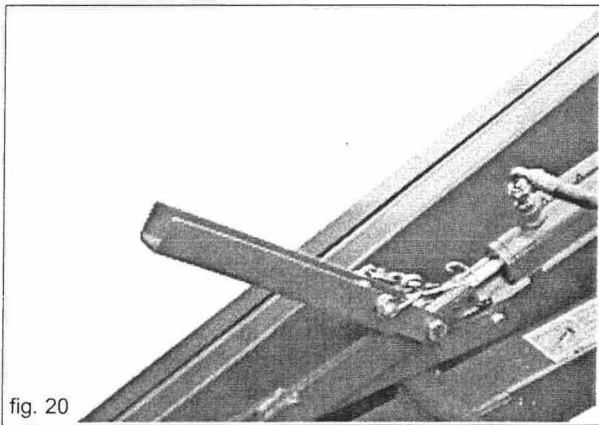
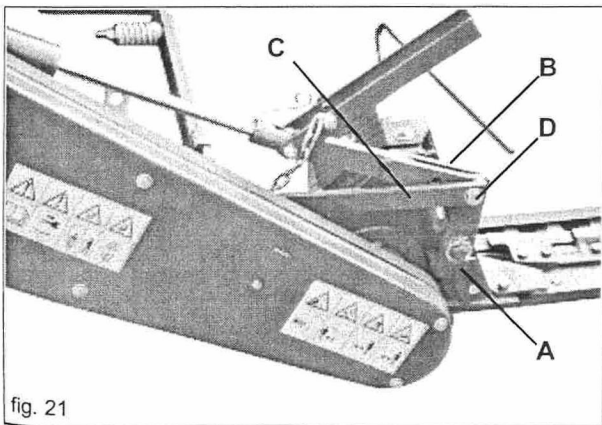

fig. 20
fig. 21
For mowing on sloping ground, disable the lifting device as shown in Figure 20 and couple the lever (A) with tie rod (B) and the rod (C) in position (D) as shown in Figure 21.